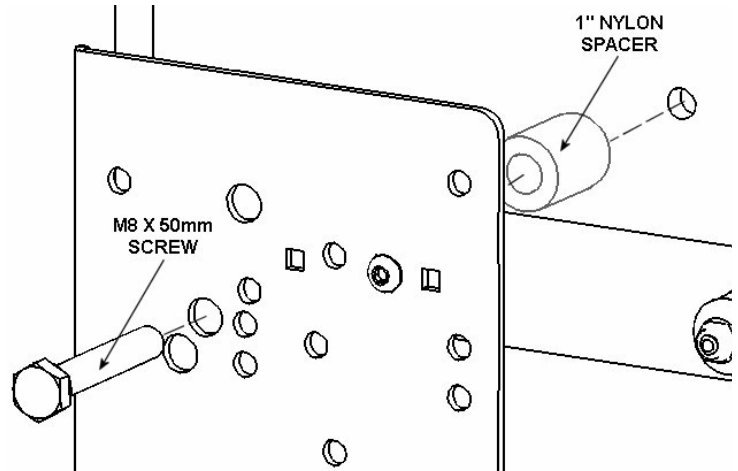
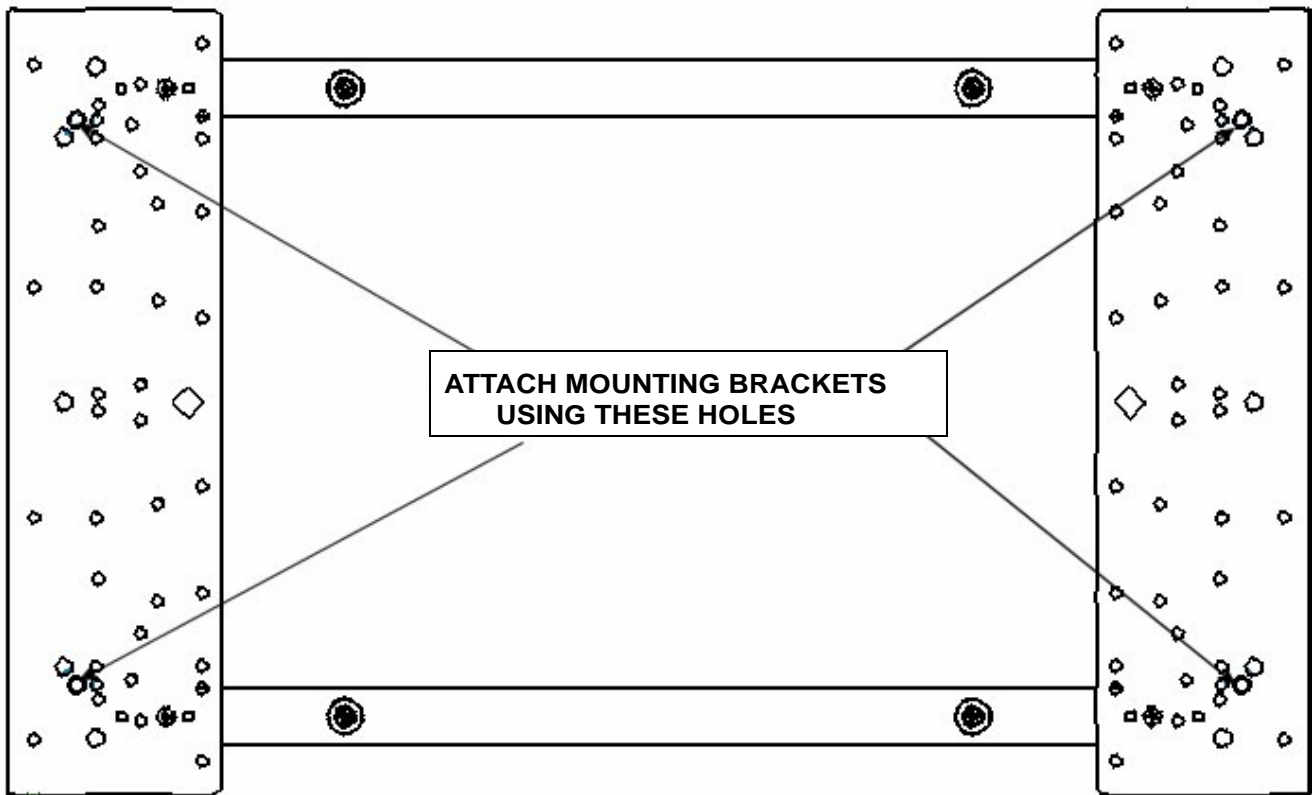

Figure 9. Spacer Installation for Group 3
Figure 10. Bracket Attachment for Group 3
4. Place the interface brackets over the Nylon spacers (see Figure 9 and Figure 10).
6. Using the hardware in the parts bag labeled B, attach the interface brackets to your display using the proper holes in each interface bracket (See Figure 9 and Figure 10). Do not overtighten the mounting screws.